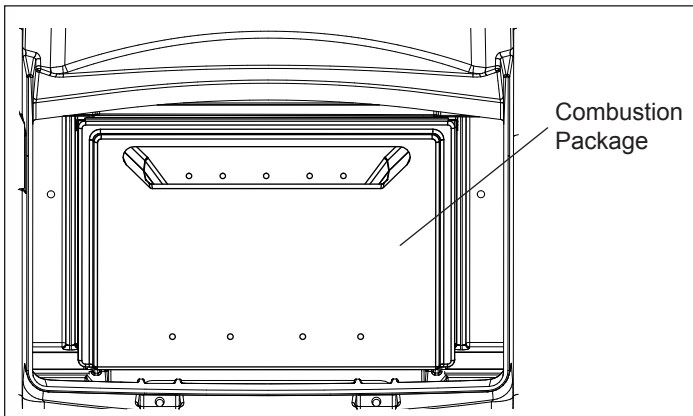

Figure 7
7. Once seal plates are removed slowly pull forward on the combustion package and remove it from the firebox. Figure 7. **Note: There is a metal cap located on top of the combustion package that should come out along with the package.**